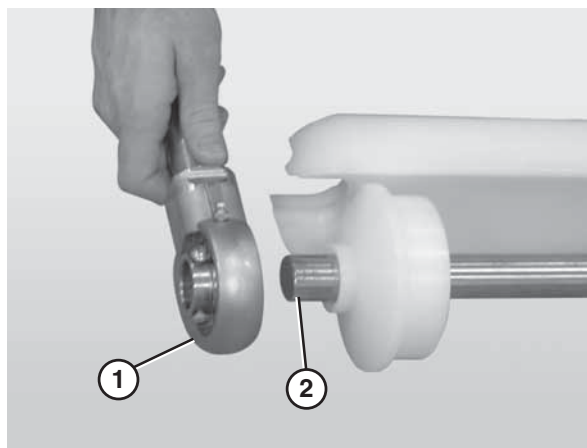

Figure 69
5. Slide the bearing shaft assembly (**Figure 69, item 1**) off the idler shaft (**Figure 69, item 2**).